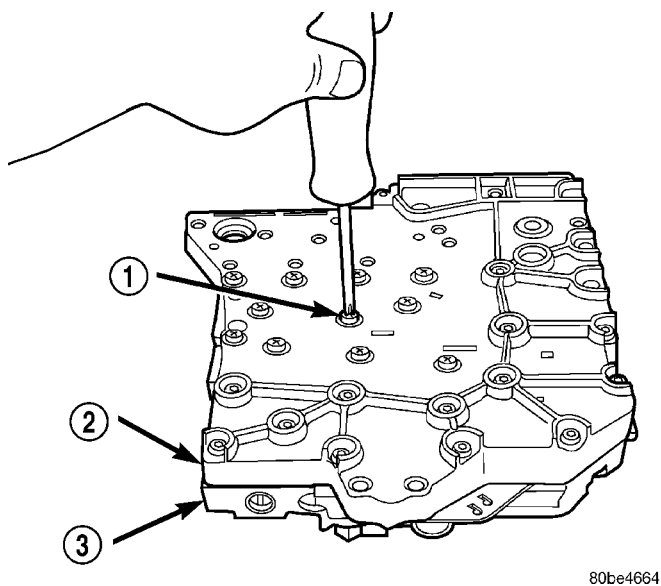

Fig. 346 Remove Valve Body to Transfer Plate Screws
(6) Remove Valve Body to Transfer Plate screws (Fig. 346).